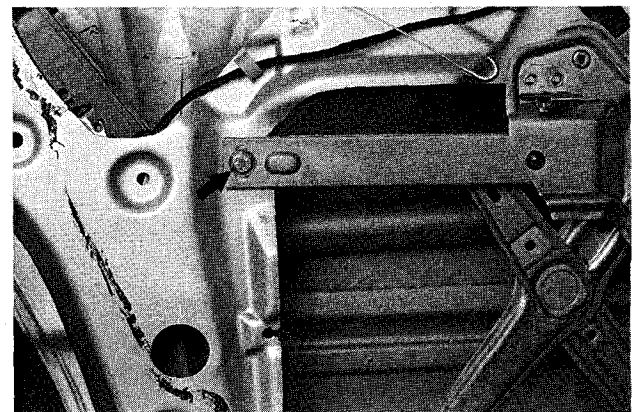

Fig. 5. Adjust window to its frame by loosening bolt (arrow) and repositioning support arm up or down.
6. If glass is not squarely positioned in window frame, loosen support arm bolt and reposition arm as necessary. Tighten bolt. See Fig. 5.